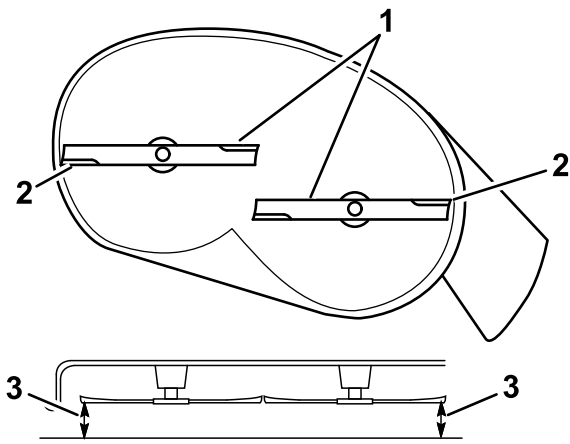

Figure 60
- Measure between the outside cutting edges and the flat surface (Figure 60).